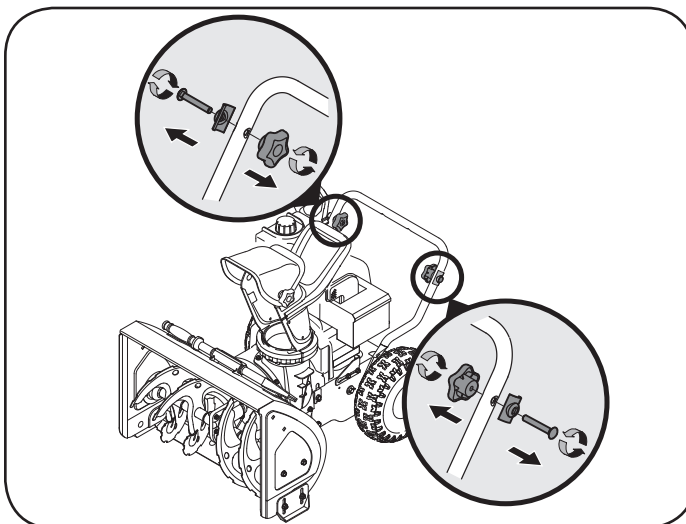

Figure 2
2. Loosen and remove the star knob, handle tab, and carriage screw on each side of the lower handle. See Figure 2.